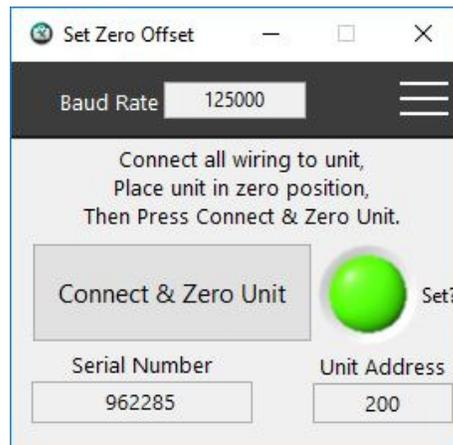

FIGURE 15: Set Zero App Success
2. Mount the unit in the desired zero position and click “Connect & Zero Unit”. The LED indicator will light if the zero is successful (*Figure 15*).